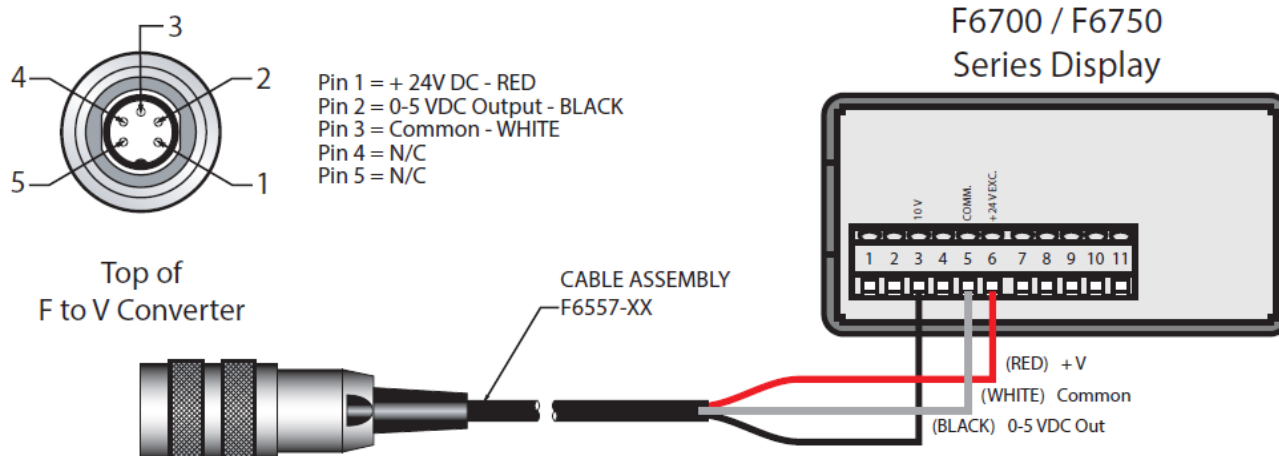

Figure 4: Flo-tech IFC flow sensor wiring
1. Connect the RED wire of the F6557 cable to terminal 6 (+24 V EXC) on the F6700 series display. See Figure 4.